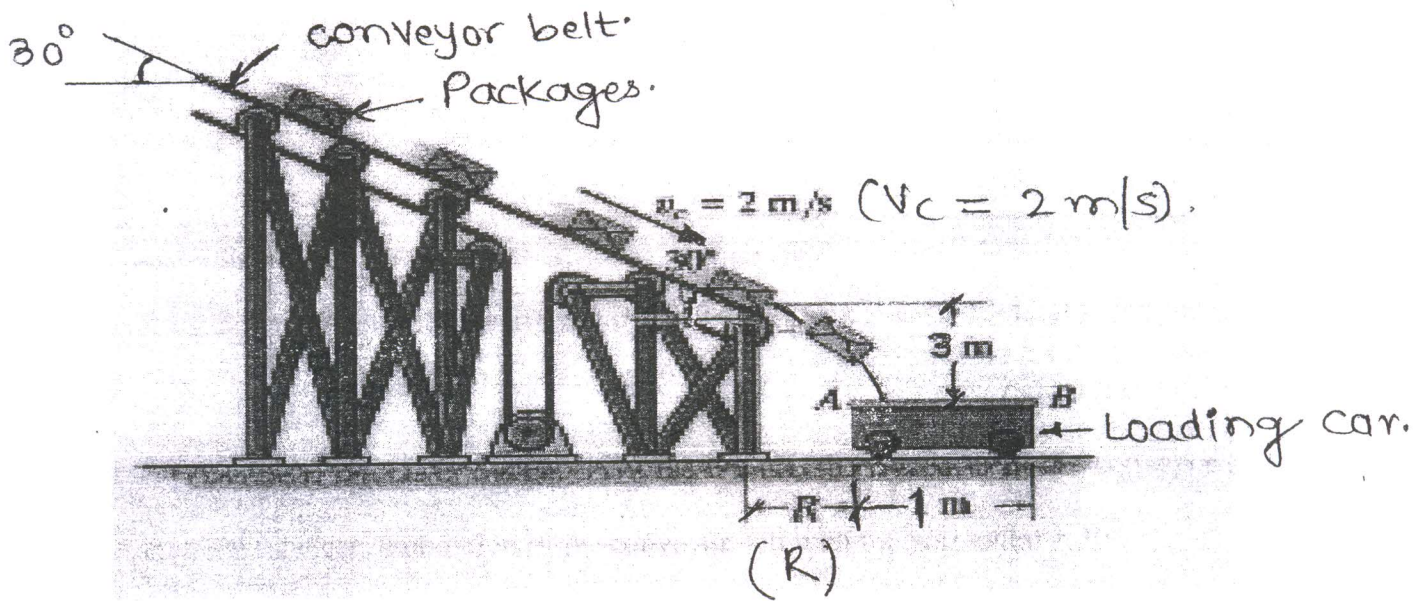

Fig. Q.4
- Q.4 Small packages traveling on the conveyor belt fall off into a 1m long loading car, shown in Fig. Q.4. If the conveyor is running at a constant speed of $V_c = 2 \text{ m/s}$, determine the smallest and largest distance 'R' at which the end A of the car may be placed from the conveyor so that the packages enter the car. Inclination of the conveyor belt with the horizontal = 30° .